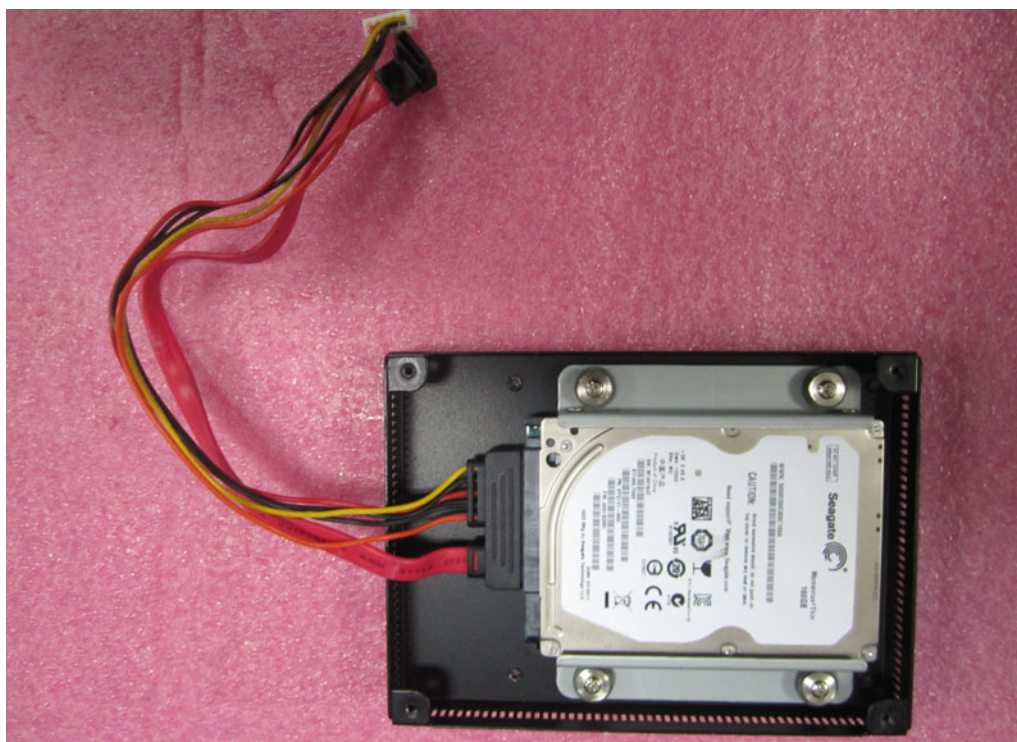

Figure 4.3 SATA HDD Cable & HDD Rear Cover Connected to the HDD
2. Place SATA HDD Cable & HDD rear cover connected to the HDD. (See Figure 4.3)